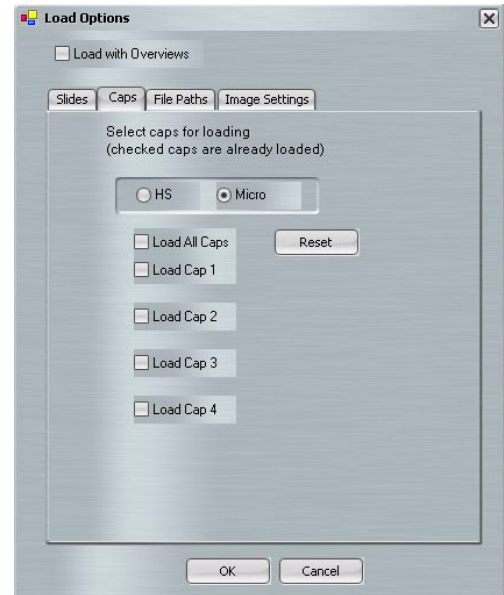

Figure 18 Load options for Capsure™ Caps (software v3.4).
2. Click the checkbox for each CapSure™ Cap that is loaded, or click **Load All Caps** to check all of the check boxes at once (see Figure 18).